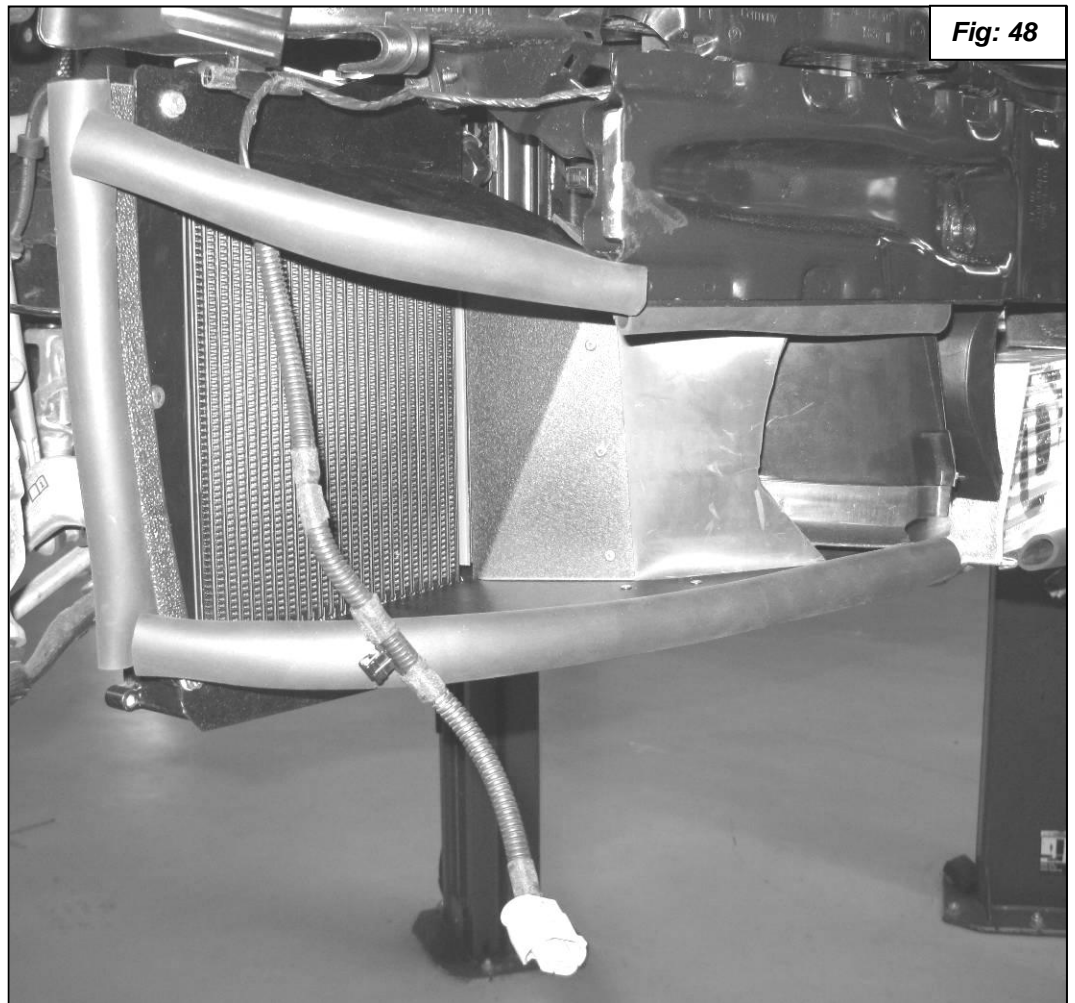

Fig: 48
44. Install the air duct onto the oil cooler assembly with the four supplied 6mm x 12mm hex head bolts and wave washers. See **figure 48**.